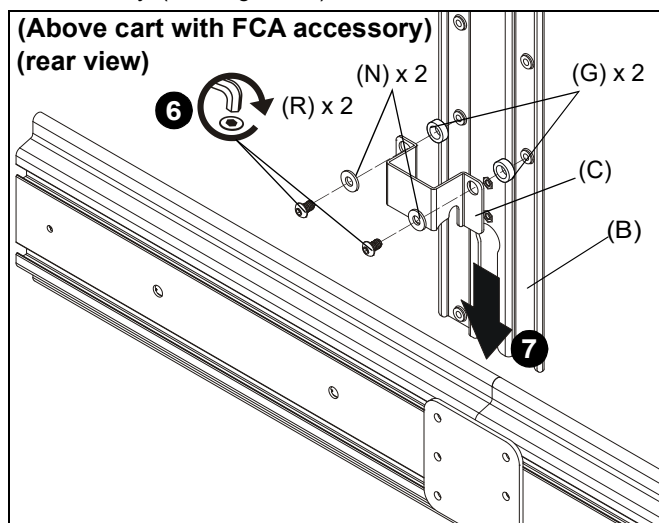

Figure 19
6. Use two 1/4-20 x 7/16" button head cap screws (R), two large washers (N) and two 1/2" spacers (G) to secure shelf bracket (C) to main bracket (B). (See Figure 19)
7. Slide main bracket (B) onto front of cart mount head assembly until shelf bracket (C) rests on top of head assembly. (See Figure 19)